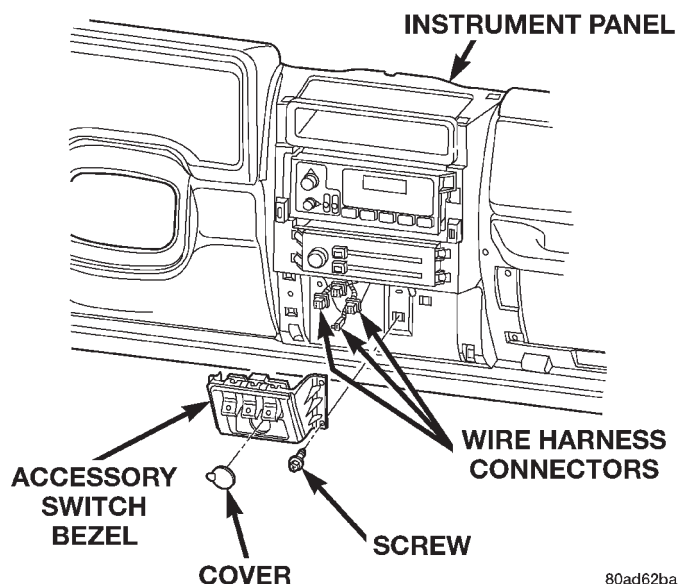

Fig. 16 Accessory Switch Bezel Remove/Install
- (1) Disconnect and isolate the battery negative cable.
- (2) Remove the center bezel from the instrument panel. See Instrument Panel Center Bezel in Group 8E - Instrument Panel Systems for the procedures.
- (3) Remove the four screws that secure the accessory switch bezel to the instrument panel (Fig. 16).